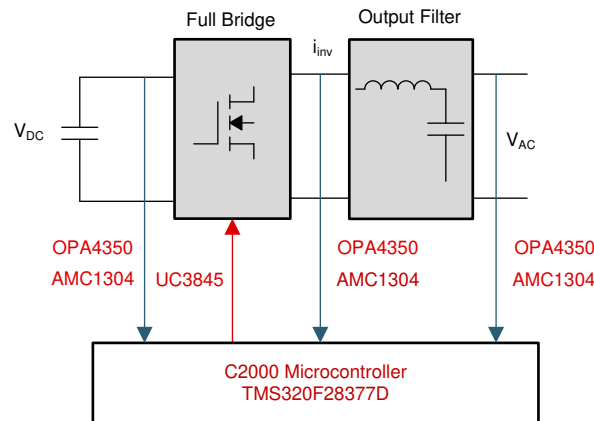

図 1. Typical Single Phase Inverter
A typical inverter comprises of a full bridge that is constructed with four switches, which can be modulated using pulse width modulation (PWM), and a filter for the high-frequency switching of the bridge, as shown in Fig. 1. An inductor capacitor (LC) output filter is used on this reference design.